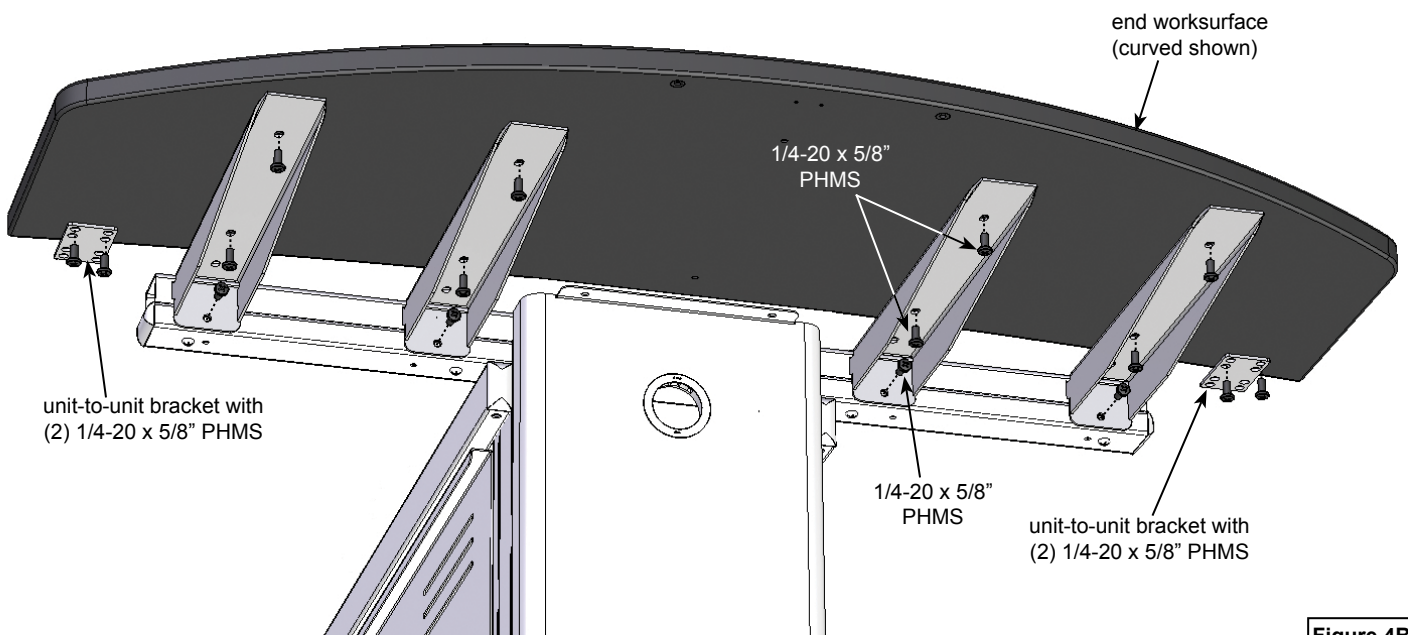

Figure 4B
4. Set the end worksurface onto the brackets and align the mounting holes. **Figure 4B.**
7. Install the two unit-to-unit brackets with (2) 1/4-20 x 5/8" PHM screws. Do not tighten completely.